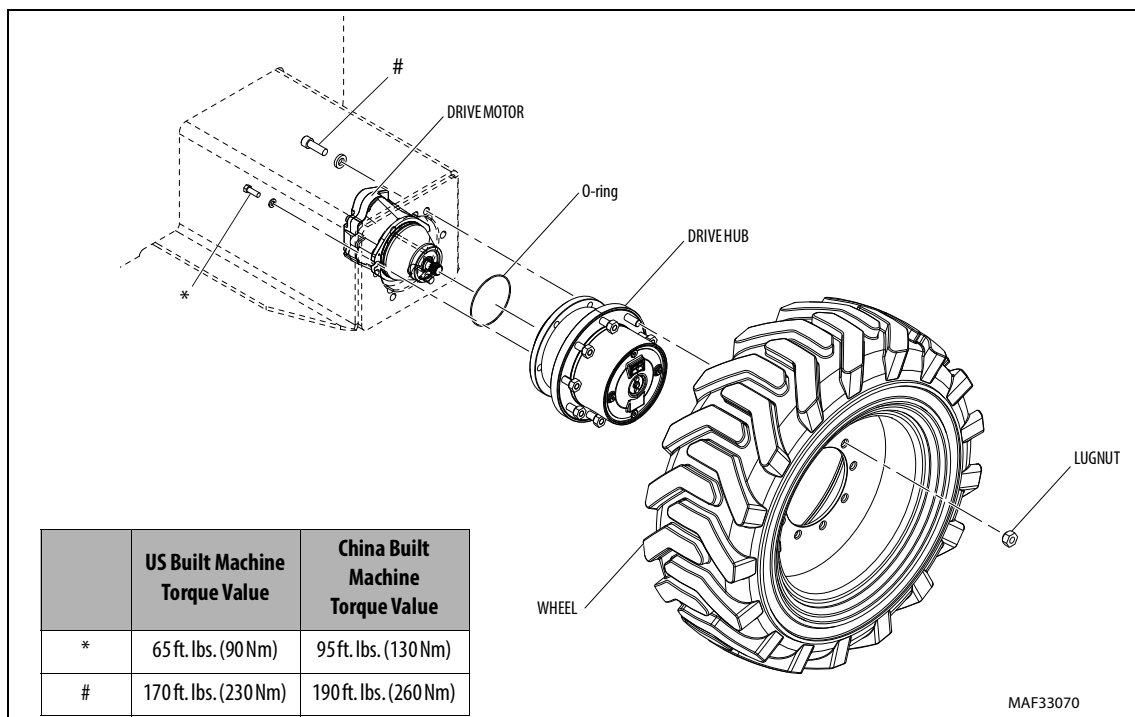

Figure 3-11. Wheel Drive Installation
1. Install a new O-ring between the drive motor and drive hub. Apply a coat of Medium Strength Threadlocking Compound on capscrews. Install the washers and capscrews to secure the drive hub and drive motor. Refer torque values on Figure 3-11.
2. Place the drive hub flange against the mounting flange on the axle and apply a coat of Medium Strength Threadlocking Compound on capscrews. Fasten it in place with the capscrews and washers. Refer torque values on Figure 3-11.